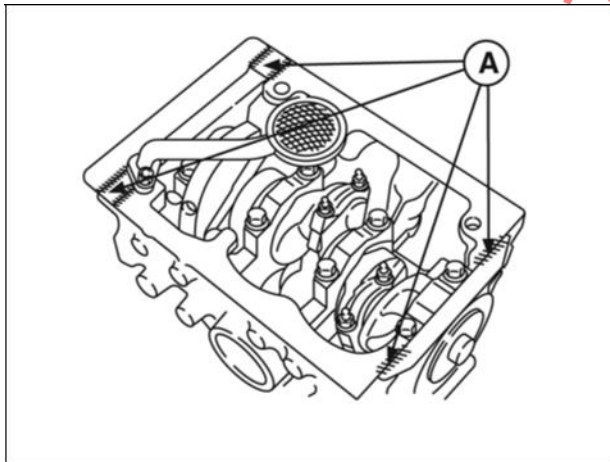

Figure 23
14. Apply a small bead of Permatex® No. 2 or other similar sealant (A, Figure 23).